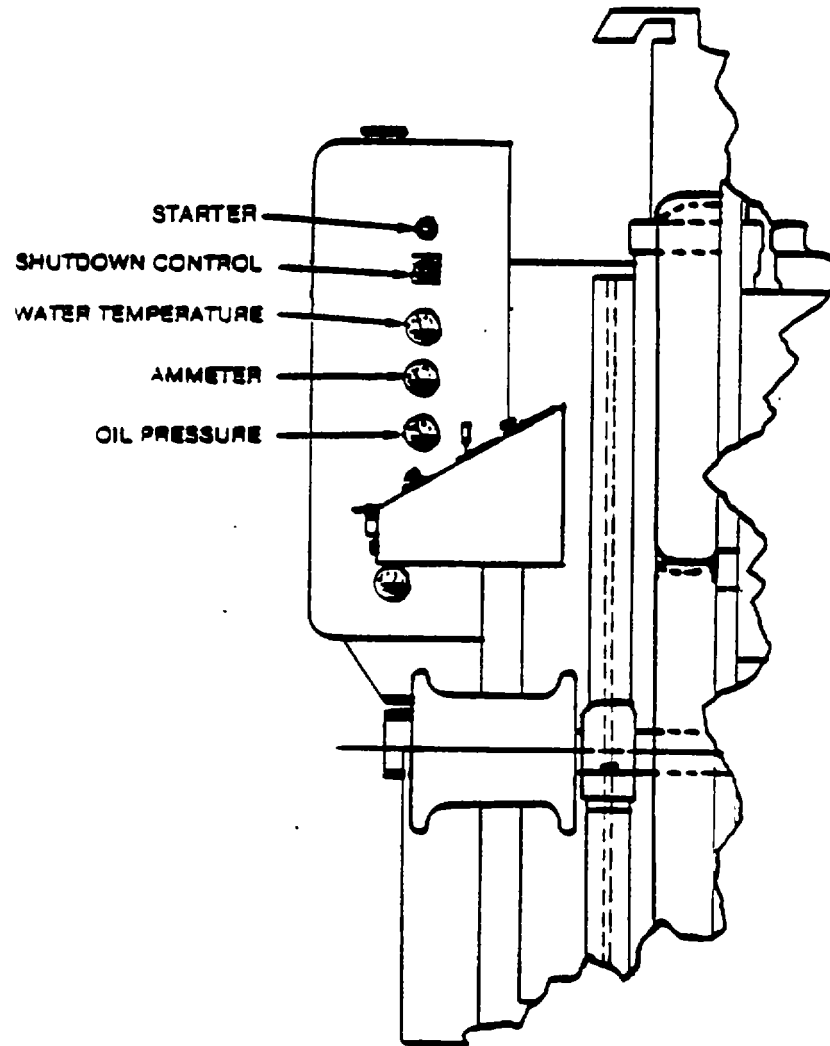

Figure 2-1. Engine Instruments.
- a. The engine instruments are illustrated in figure 2-1.